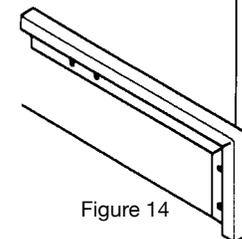

Figure 14
4. Bend metal cap to form a return corner (see figures 14 and 15).